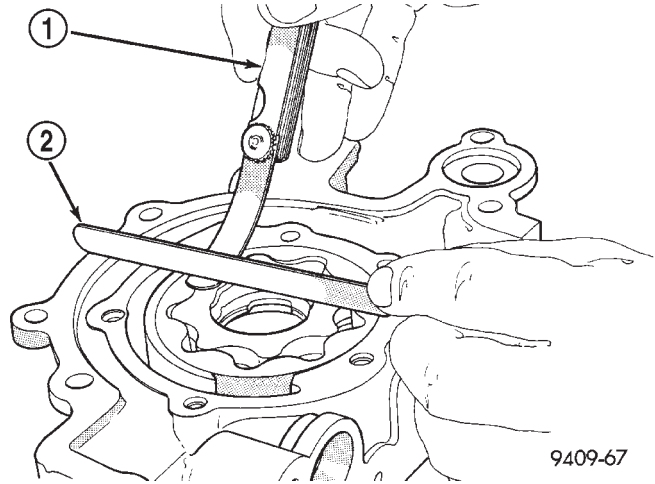

Fig. 133 Measuring Clearance Over Rotors
(7) Place a straightedge across the face of the pump housing, between bolt holes. If a feeler gauge of 0.102 mm (0.004 inch) or more can be inserted between rotors and the straightedge, replace pump assembly (Fig. 133). **ONLY** if rotors are in specs.